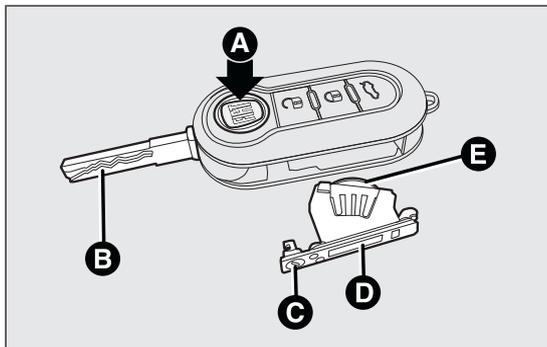

fig. 5
- ❑ press button A fig. 5 and open the metal insert B fig. 5;
- ❑ turn the screw C fig. 5 to  using a fine bit screwdriver;
- ❑ take out the battery case D fig. 5 and replace the battery E fig. 5 making sure that polarities are correct;